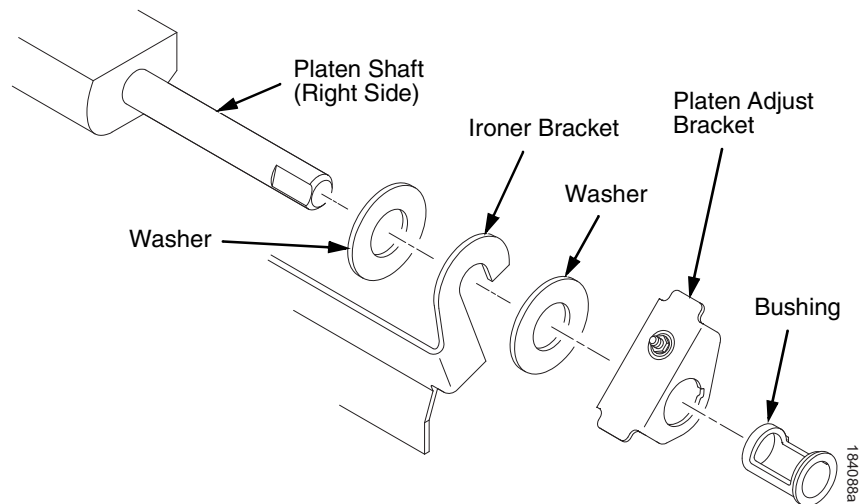

Figure 33. Installing the Platen Adjust Bracket
2. Install two washers on the longer (right) platen shaft. (See Figure 33 below.)
6. Install one platen adjust bracket and bushing onto the longer platen shaft, with the screw at the top of the bracket. (See Figure 33.)
11. Apply bearing lubricant to the nylon bearings in the two spring links, slide the spring links onto the platen shafts, and connect the springs to the spring hooks in the side plates. (See page 358, items 16, 17, and 18.)
13. Install the paper ironer bracket. (See Figure 33.)
On the right side of the platen, a washer goes on both sides of the paper ironer bracket hook and the hook goes to the left of the right platen adjustment bracket. (See Figure 33.)